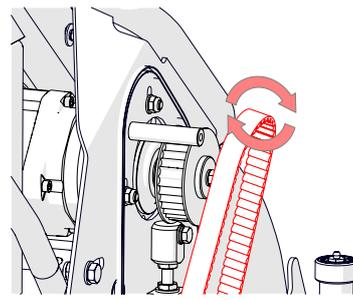

Fig.14F - Replace the belt.
6. Replace the belt if required (Fig.14F).